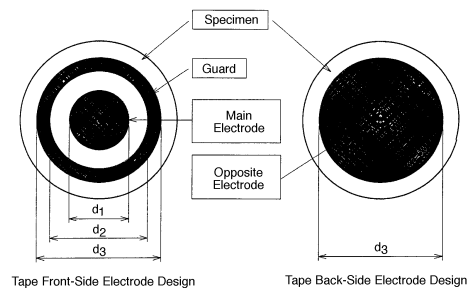

Figure 2
6.1 Measure the thickness of specimen with the micrometer. Attach the electrodes to the specimen. Electrodes are formed by conductive epoxy printing or aluminum evaporation shown in Figures 2 and 3.